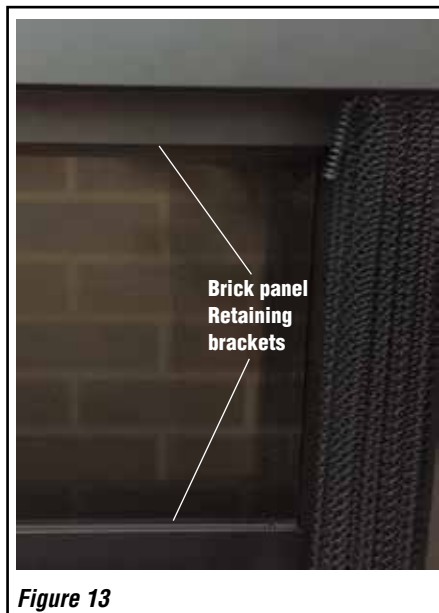

Figure 13
- c. Remove the top brick panel retaining bracket (see **Figure 13, Page 10**). Be very careful to hold the bracket when removing the 2 screws to ensure the bracket doesn't fall.
- d. Remove the left and right side brick panel retaining brackets (see **Figure 13, Page 10**). Be very careful to hold the bracket when removing. Remove the bottom screw first to avoid the frame falling down after both screws are removed.